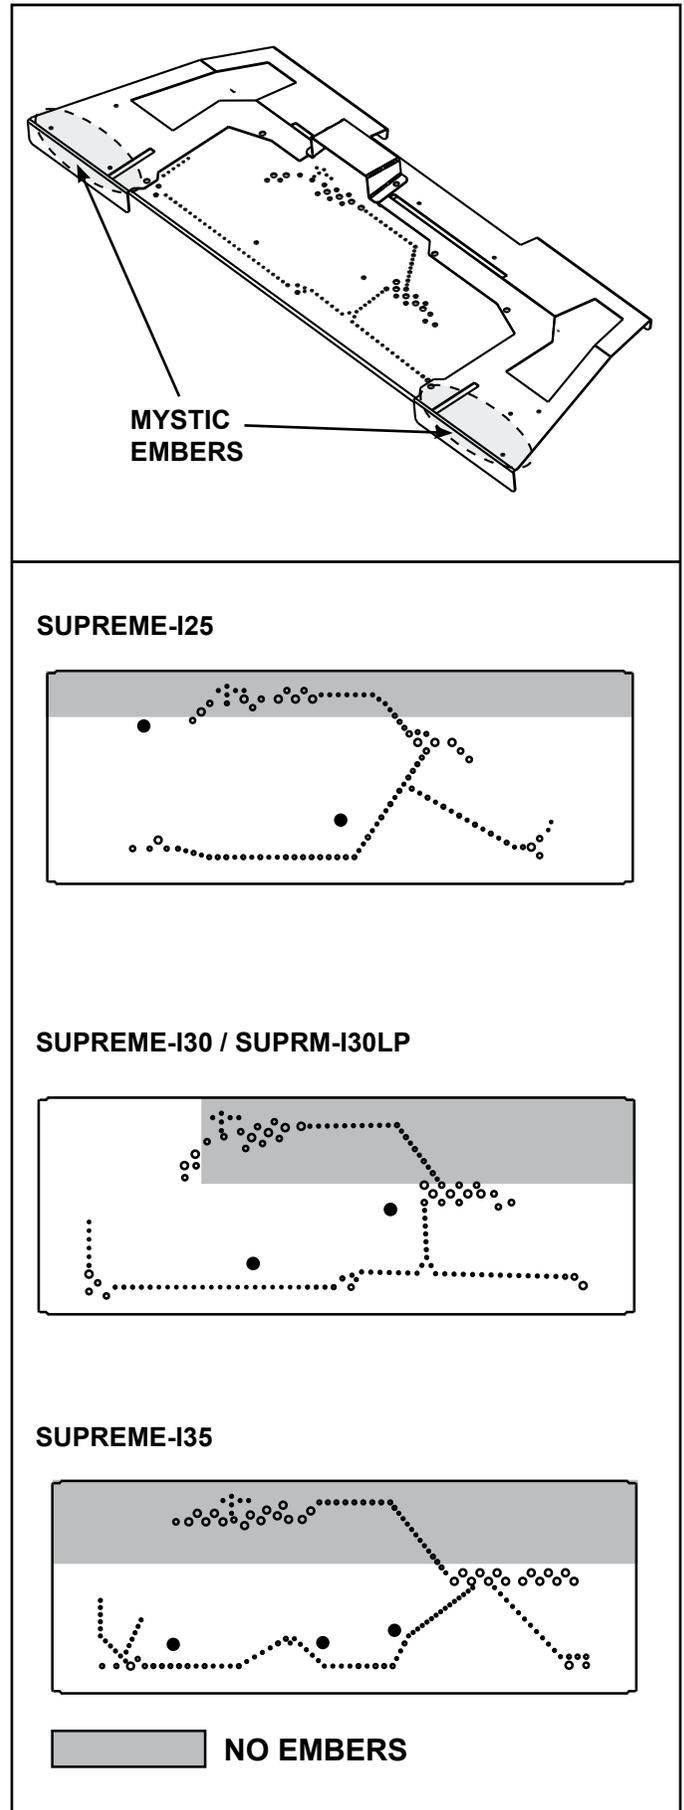

Figure 9.3 Placement of Embers
- Embers CANNOT be placed directly over burner ports that are indicated in Figure 9.5 or in pilot area as indicated in Figure 9.3.
- Embers may be placed on the ports in areas indicated in Figure 9.3. These embers must be placed loosely over the port holes, not pressed down on or into the holes. Create a single layer, no more than 1/4 inch thick.